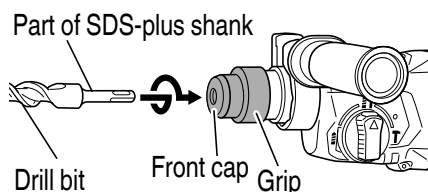
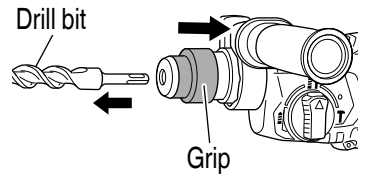

Fig. 7
Fig. 8
- (1) Turn the grip of the side handle to loosen it and push it in until it comes in contact with the housing.
- (2) Adjust the side handle to the angle that allows the easiest use, then turn the side handle's grip firmly to lock it place.
3. Mounting the drill bit (**Fig. 7, Fig. 8 on page 42**)
- (1) Clean the shank portion of the drill bit.
- (2) Insert the drill bit in a twisting manner into the tool holder until it latches itself. **(Fig. 7 on page 41)**
- (3) Check the latching by pulling on the drill bit.
- (4) To remove the drill bit, fully pull the grip in the direction of the arrow and pull out the drill bit. **(Fig. 8)**